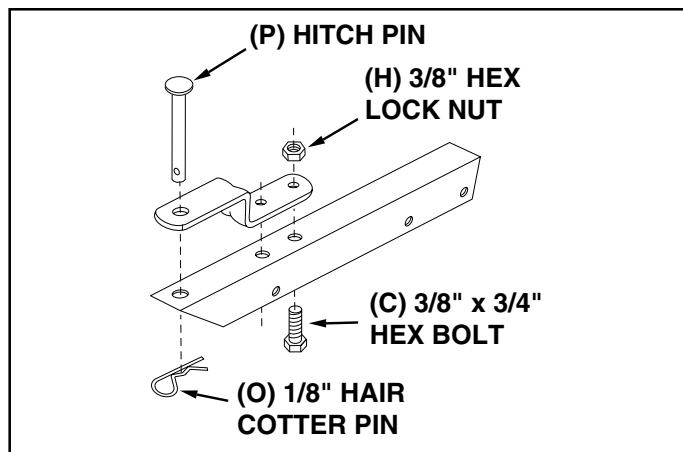

FIGURE 13
25. Assemble the hitch bracket to the hitch extension bracket using two 3/8" x 3/4" hex bolts (C) and 3/8" hex lock nuts (H). Insert the bolts from the bottom. See figure 13.
26. Assemble the hitch pin (P) through the hitch bracket and the hitch extension bracket and secure with the hair cotter pin (O). See figure 13.